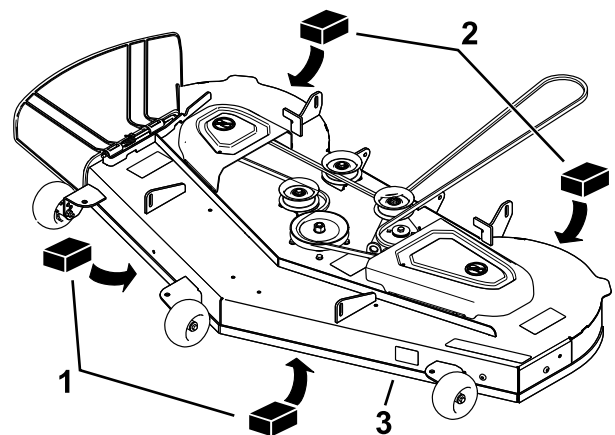

Figure 60
3. Place 2 blocks, each having a thickness of 6.6 cm (2-5/8 inches), under each side of the front edge of the deck but not under the anti-scalp roller brackets (Figure 60).
4. Place 2 blocks, each having a thickness of 7.3 cm (2-7/8 inches), under the rear edge of the cutting deck skirt, 1 on each side of the cutting deck (Figure 60).